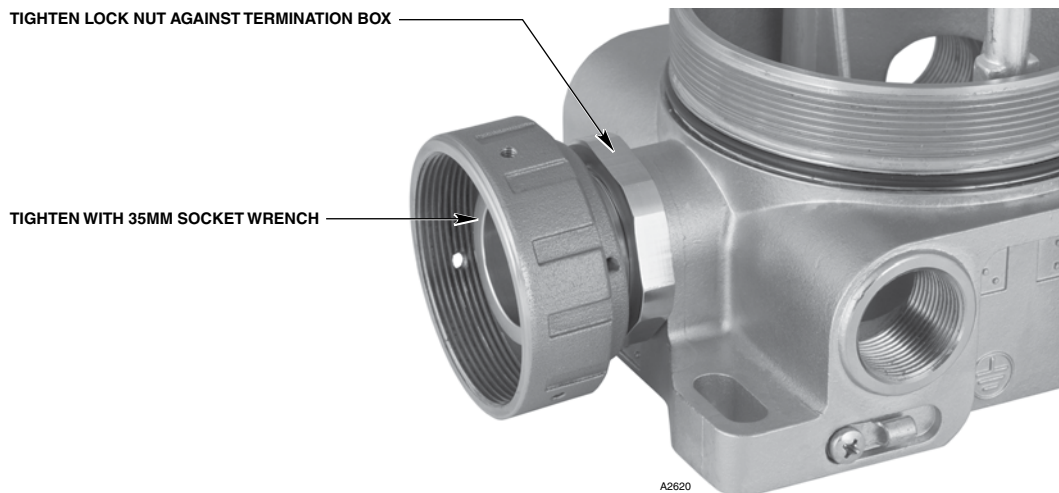

Figure 10—Connector Assembly Attached to Termination Box
4. Tighten the lock nut against the termination box. See Figure 10.